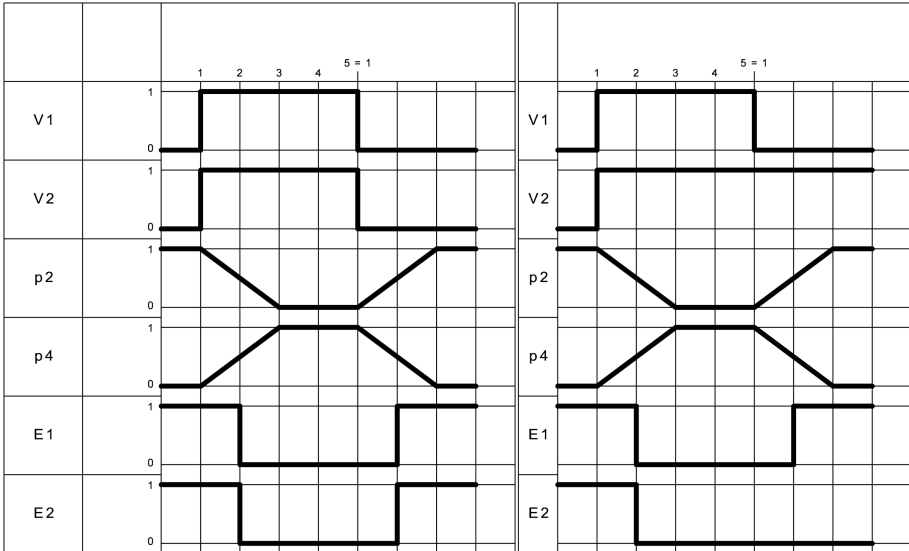
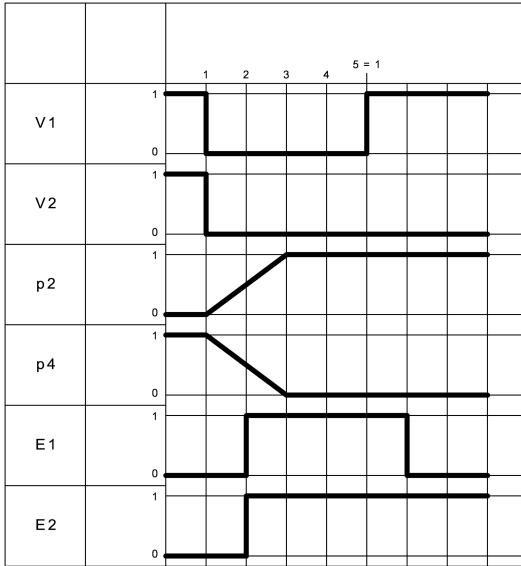

Fig. 9: Function test, steps 1 and 2
Fig. 11: Function test, step 7
3. To check all possible switching position combinations of the two 5/2-way solenoid valves V1 and V2 of the control block: evaluate signals of proximity switches E1 and E2 (here: PNP proximity switches) with the following step sequences (→ Fig. 9 ... → Fig. 11).